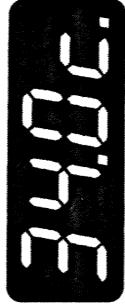

Figure 3.
9. When the temperature of the solution has been attained (as shown in Figure 3), the extreme right LED dot indicator pulses less frequently.